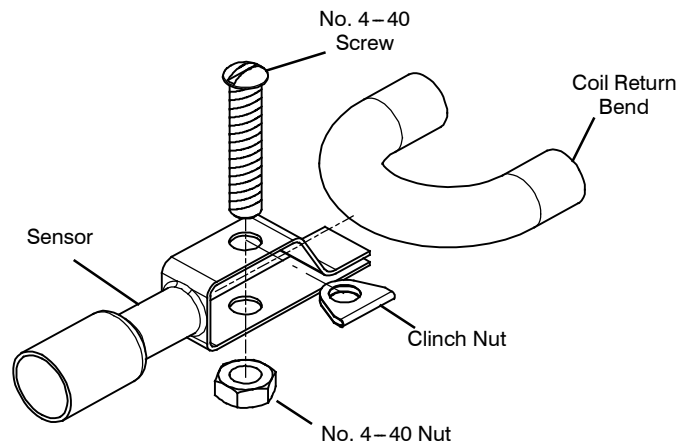

Fig. 4- MotorMaster® Sensor
5. Secure sensor on coil return bend with the No. 4-40 screw and nut supplied with kit as shown in Fig. 4.